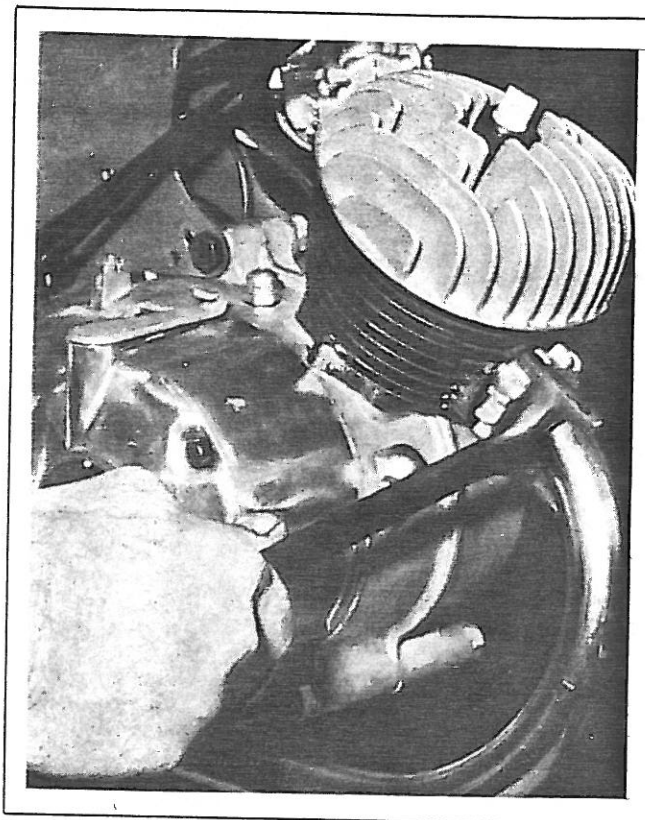

Figure 10.
- b. Use tool G to remove the exhaust pipe nut and separate exhaust pipe from cylinder (Figure 10).
2. Use tool G to remove exhaust pipe nut and separate exhaust pipe from the cylinder (Figure 10).